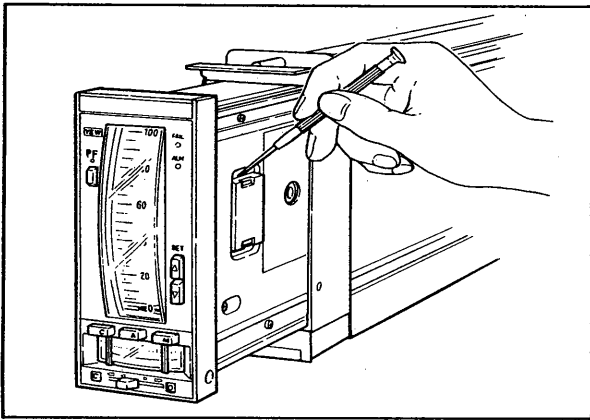

Figure 6-3-4. Removing the Battery Cover.
- (1) Pull the internal assembly out slightly from the housing, and remove the battery cover and the battery. (See Figures 6-3-4 and 6-3-5.)
- (2) Insert a new battery and mount the battery cover in position.
- (3) Insure that the front-panel ALM lamp stops flashing.